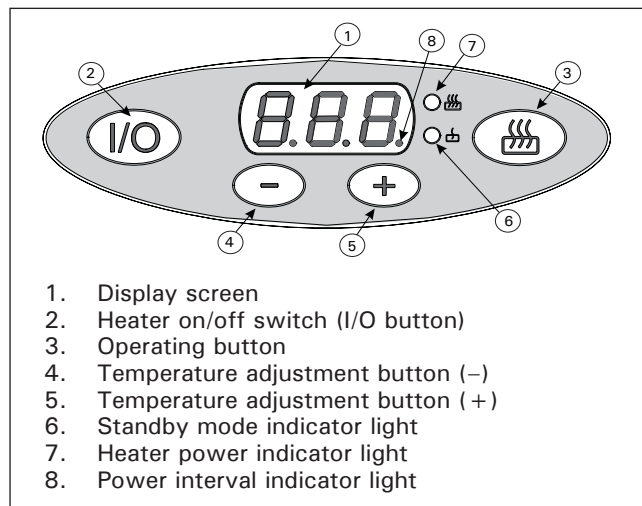

Figure 2. Control panel
When the operating button is used to set full heater capacity (HI), the heater temperature is set to 500 °F (260 °C). This temperature cannot be set using the temperature adjustment buttons 4 and 5 (fig. 2). If the heater cover is closed while the heater operates at full capacity, the pre-set temperature of the stone space 500 °F (260 °C) can be achieved more quickly.
To switch the heater on, press the I/O button. To indicate that current has been connected to the heating elements, the display shows the message LO (standby power). In addition, indicator light 6 (fig. 2) is lit up. The temperature of the stone space can be set to a maximum of 500 degrees Fahrenheit (260 degrees Celsius) by pressing the + button 5 (fig. 2). The minus button 4 (fig. 2) is used to lower the temperature if it has been set too high.
The electric power consumption of the heater can be monitored using indicator lamp 8 (fig. 2). See the section "Display screen."
To switch on to full capacity, press the operating button 3 (fig. 2) once. The display screen 1 (fig. 2) indicates that the HI state (= full heater capacity) is in use. In the HI state, the stone space temperature increases towards the set value of 500 °F (260 °C). Full capacity is switched on for only one hour at a time, after which the heater automatically switches to the LO state with indicator light 6 burning (fig 2). After initial heating, the heater cover must be closed. If the stone chamber seems to emit odours, the cover can be left open for a while as the heater operates at full capacity (HI).
the thermal energy stored in standby mode remains in the heater stones despite the cooling effect of air currents and the water thrown on the stones, the heater power should be switched on during bathing using the operating button 3 (fig. 2). "HI" will be displayed on the screen for a while as an indication of the higher power and the indicator lamp 7 glows (fig. 2).